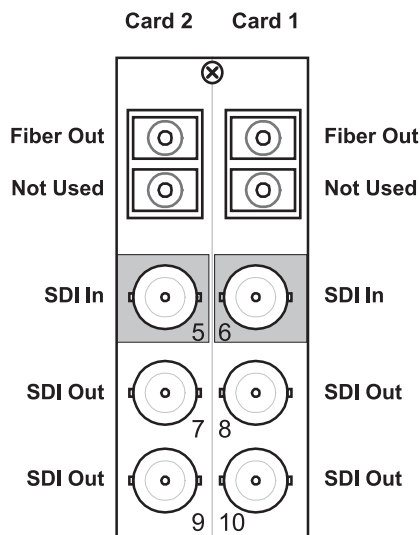

Figure 2.5 Cable Connections for the **8320AR-045** Rear Module
- **8320AR-045** Split Rear Module (R2S-6602) — Each card occupies one slot and provides one optical output, one SDI input, and two SDI outputs. Refer to **Figure 2.5**.